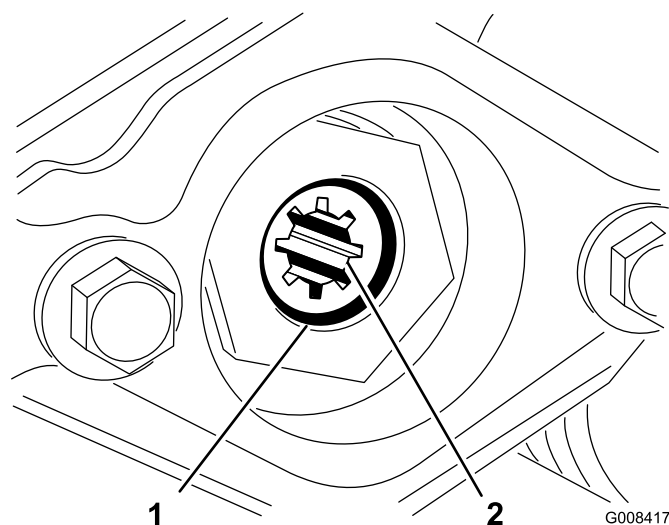

Figure 9
3. Allen head screw (2)
4. Remove the snap ring securing the drive coupler in the reel tube (Figure 9). Remove the drive coupler.
5. Apply grease to the inside diameter of the drive coupler. Install the drive coupler to the left end of the cutting unit reel tube with a snap ring (Figure 9).